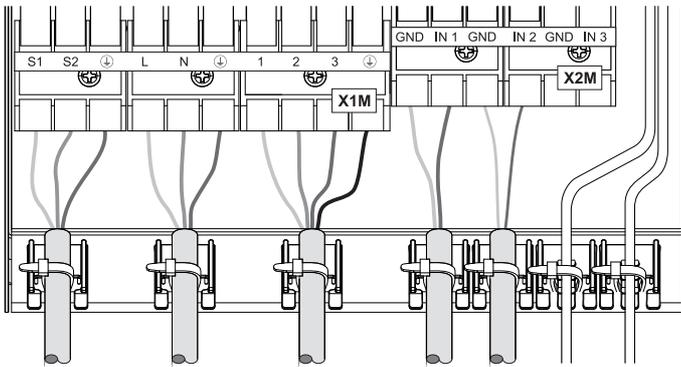

Fig. 4-8 Tension relief using cable ties
- For all the cables connected to the DAIKIN EKHHP effective tension relief must be ensured in the controller housing using cable ties (see fig. 4-8 to 4-10).